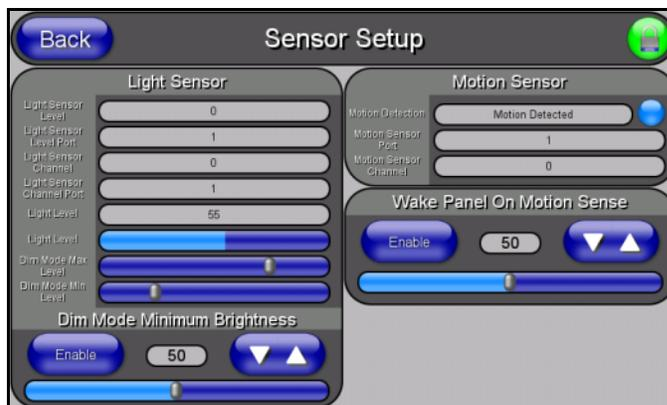

FIG. 90 Sensor Setup page
The Sensor Setup page (FIG. 90) allows you to adjust the Light and Motion Sensor parameters on a Modero touch panel.
3. Open the Sensors Setup page (FIG. 90) from the Protected Setup menu section.